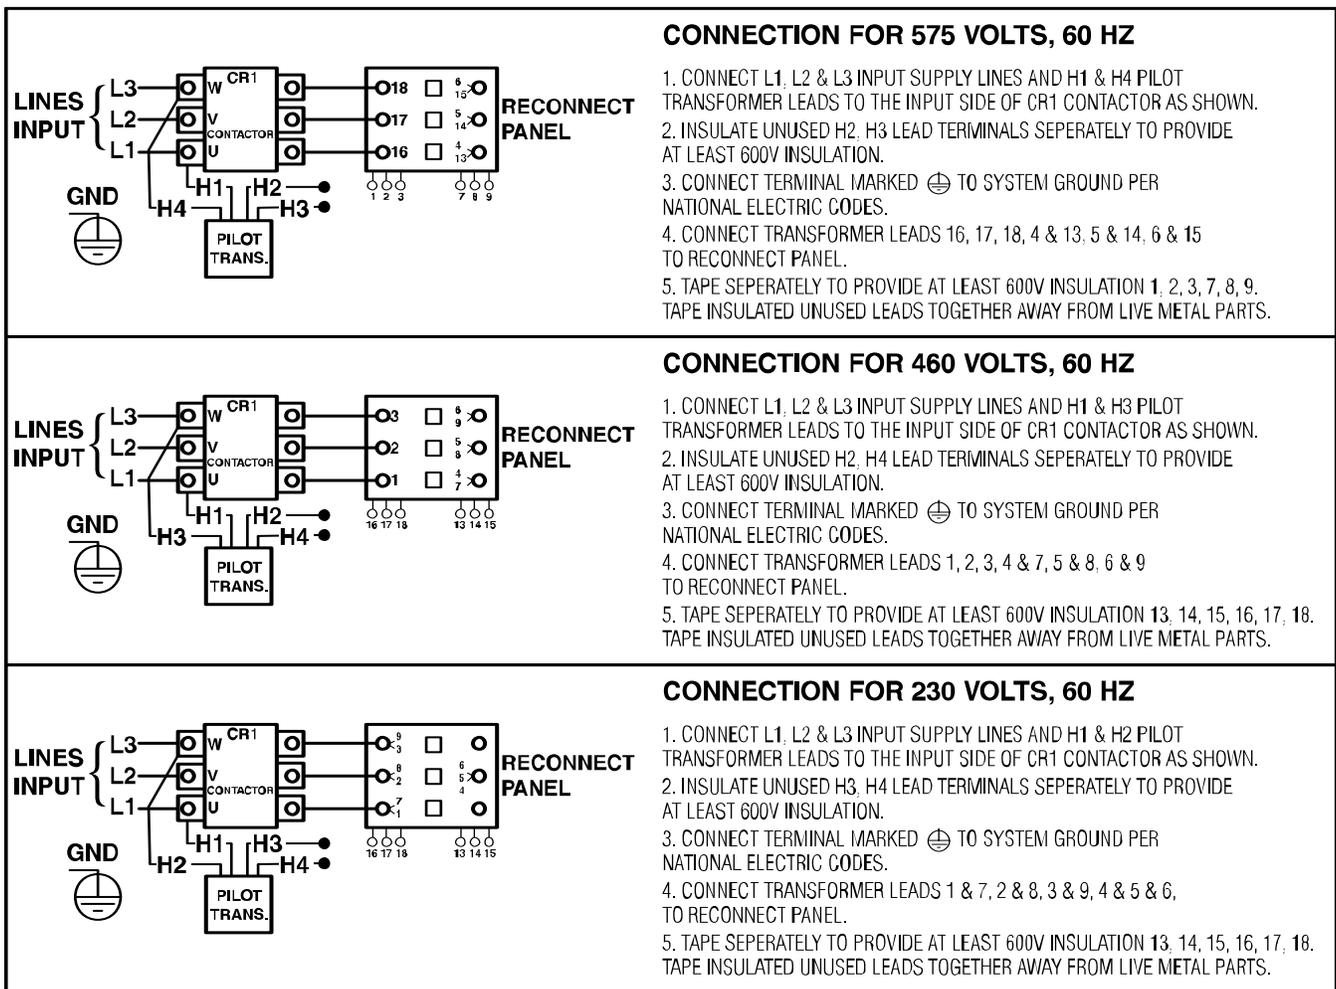

FIGURE A.8-Reconnect Panel Board Positions for 230/460/575 VAC Machines
5. For 230/460/575, see Figure A.8. (M15666)